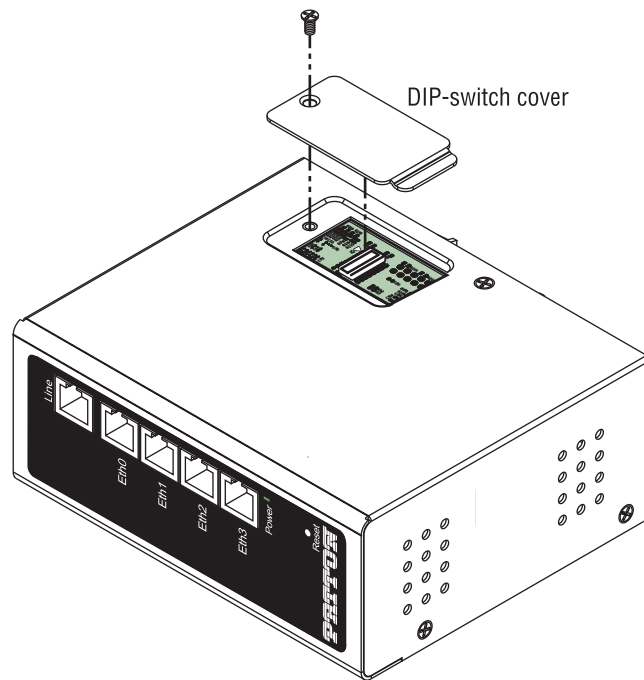

Figure 4. Removing DIP switch cover
1. Using a small cross-tip screwdriver, remove the protective cover located on the right side panel of the CL1300R (see figure 4 on page 20).